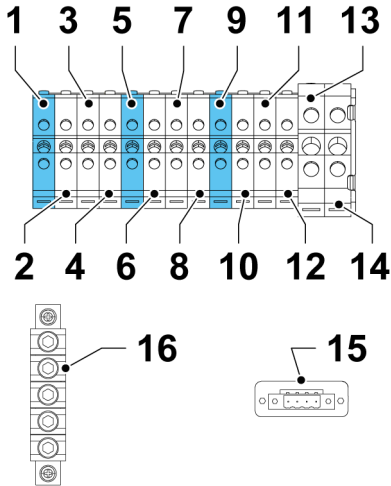

Figure 10. Power cable terminals in the 93PS 8-10 kW
4. Connect the cables to the respective terminal blocks, see Figure 10.
For instructions on how to install the external battery cabinet and battery power cabling, see the instruction manual provided with the external battery cabinet. Earth the external battery cabinet / customer-supplied battery system to the PE terminal 16 shown in Figure 10.